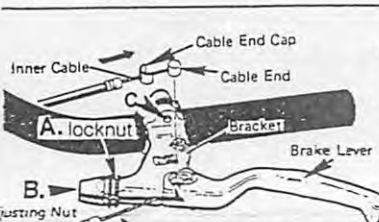

FIG. 20: Brake shoe clearance can be adjusted at the brake lever.
- Make minor brake shoe clearance adjustments with adjusting nut on brake lever. Fig. 20 shows the brake lever. Arrow "A" points to locknut on brake lever. Arrow "B" points the adjusting nut. "C" shows lever clamp nut. To make minor adjustments at the brake lever, hold brake shoes closed, loosen locknut counterclockwise, turn adjusting nut clockwise, retighten locknut.
- Loosen the cable slack adjuster knurled nut ("A" in Fig. 20) so the channel in both knurled nuts "A" and "B" line up with the channel in the brake lever, as shown in Fig. 23.
d. Make finer touch-up brake shoe clearance adjustments at the brake lever, as shown in Fig. 20.